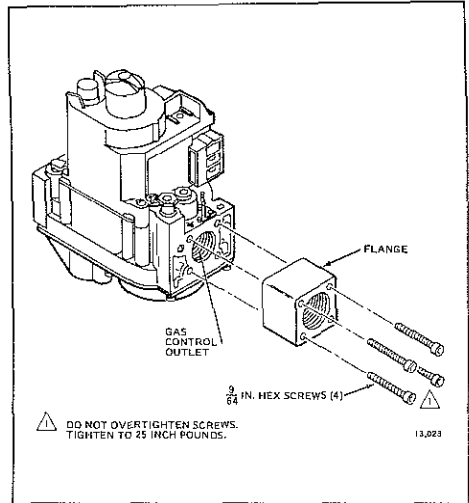

Fig. 1—Install flange to gas control.
4. With O-ring facing gas control, align the screw holes on the gas control with the holes in the flange. Insert and tighten the screws provided with the flange. See Fig. 1. Tighten the screws to 25 inch pounds of torque to provide a gas-tight seal.